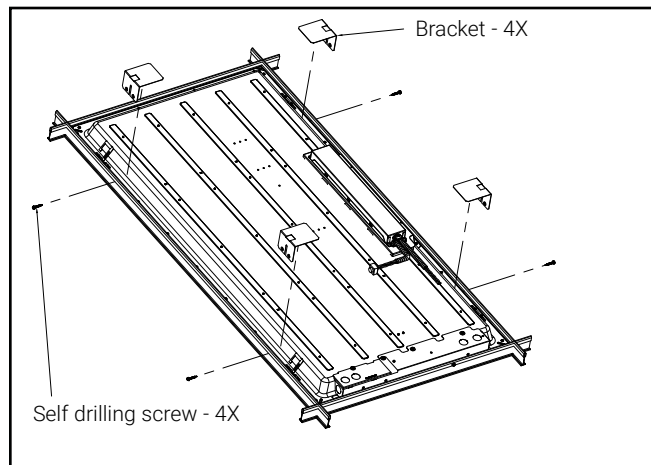

Figure 7.
- Press brackets down towards fixture and install included self drilling screws (Fig. 7).